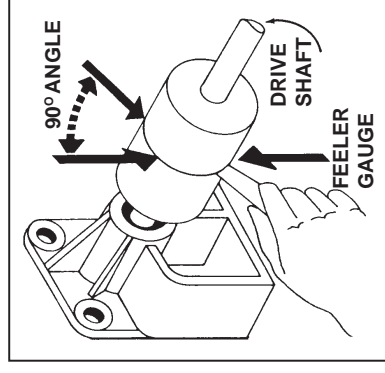

FIGURE 6
- To avoid angular misalignment, insert a measuring device (taper gauge or feeler gauge) between the coupling faces at four locations 90 degrees apart. (See arrows in Figure 6) and measure the gap at each of the four locations. For proper alignment all four measurements should be equal. Reshimming may be required to achieve this alignment.